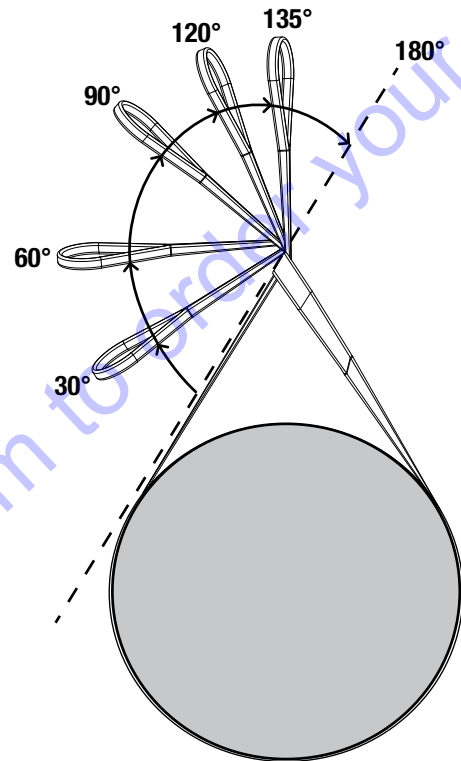

Figure 3. Choke Angle
3. If the choke angle (Figure 3) is 120 degrees or less, the lifting strength of the slings must be derated as shown in Table 1, in accordance with ASME Standard B30.9.